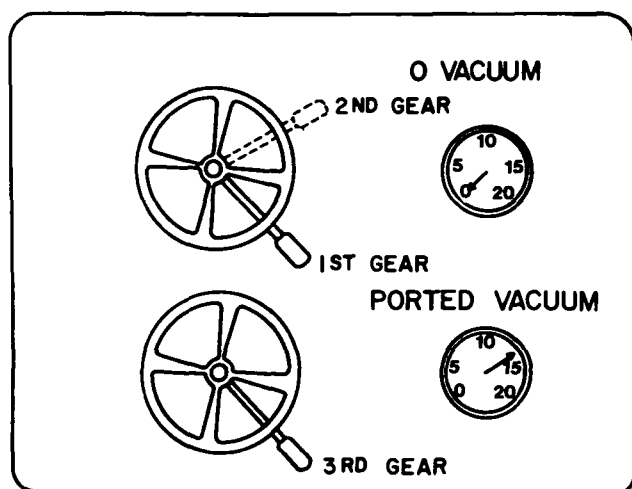

Figure 9-12
2. Figure 9-12 shows an operational test on a vehicle with a standard transmission. List the basic steps necessary to perform this test.